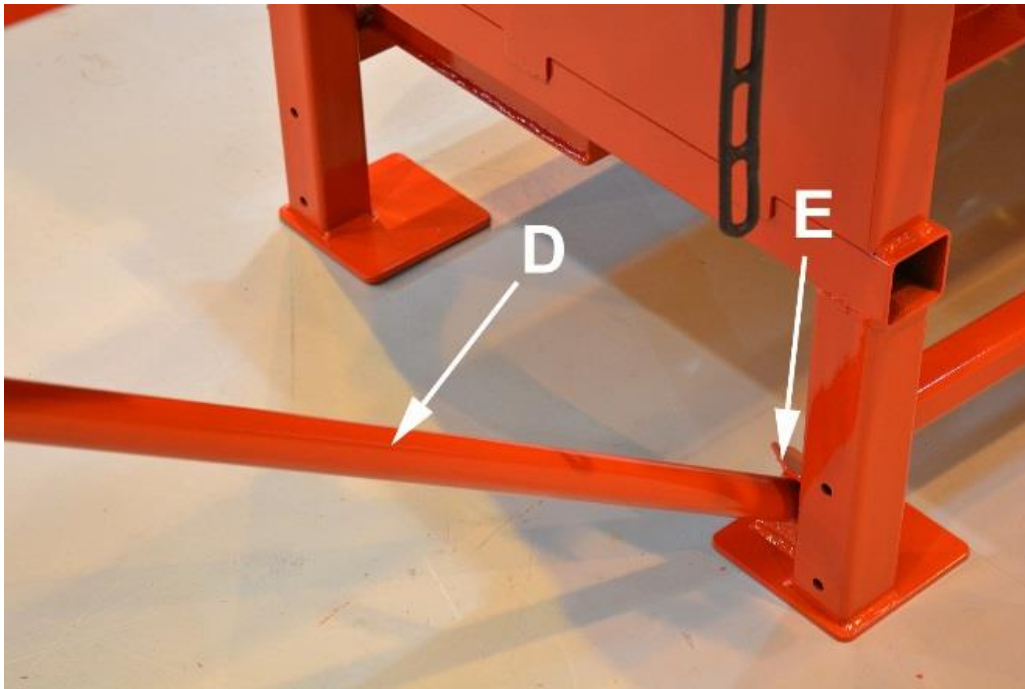

Figure 4.
4. Lower the input conveyor with your left hand while simultaneously using your right hand to guide support leg D into slot E (Figure 4).